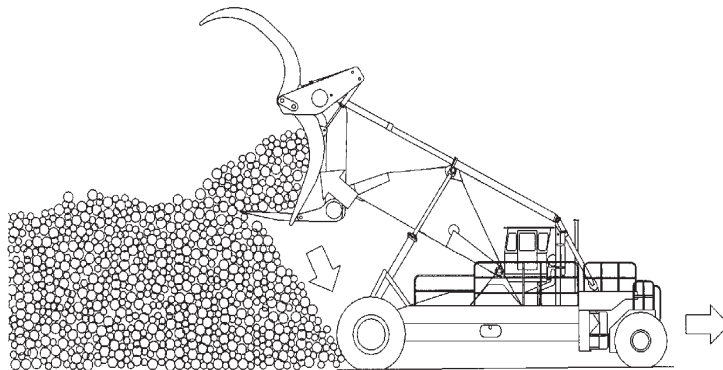

Figure 5-15
- Move up to the deck with the load lifted to the necessary height. Place the drive wheel tires tight against the bottom logs, as this firms up the deck and helps prevent logs from shifting when you place the new load on top (See Figure 5-15).